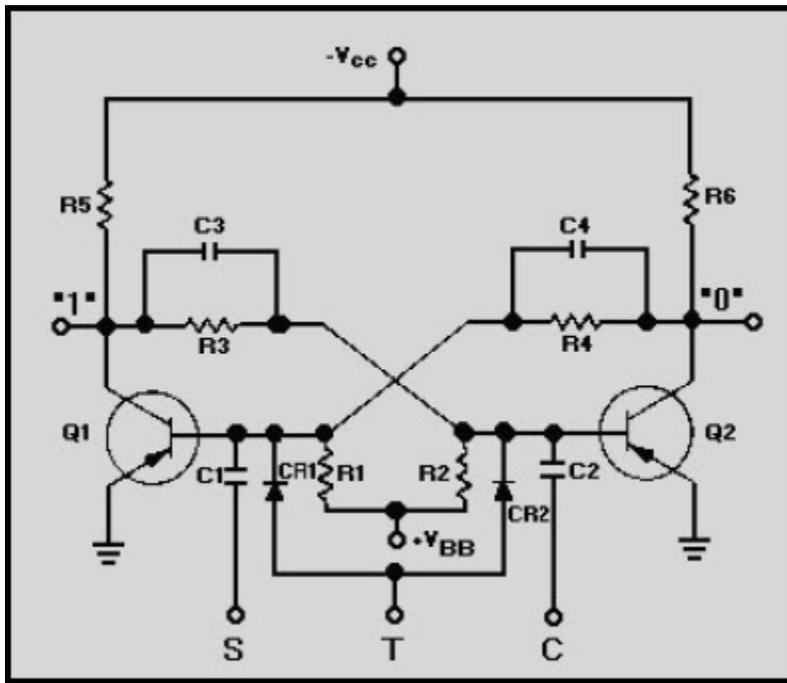
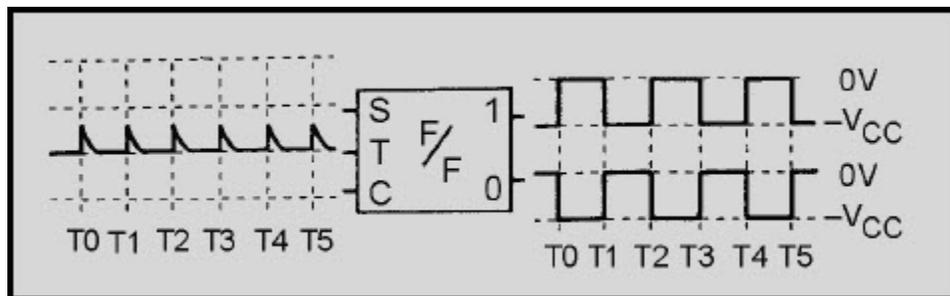
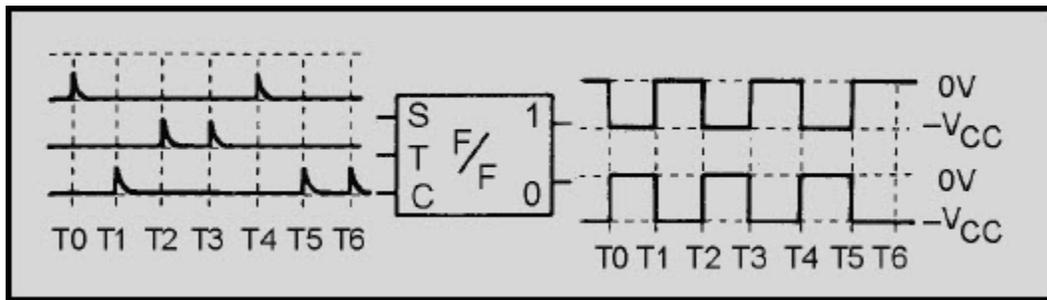

Figure 3-28 Flip-flop with three inputs
Figure 3-29 Block diagram of a flip-flop with a toggle input
Figure 3-30 Flip-flop with three inputs (block diagram)
Some flip-flops use a third input lead, as shown in figure 3-28. This third input lead is called a TOGGLE (T) input. Every time a pulse is applied to the T input, the flip-flop will change states from whatever its state was previously. The two diodes (CR1, CR2) form a STEERING NETWORK. This steering network directs a positive input pulse to the saturated transistor, causing it to cut off. Negative pulses are blocked by the diodes. Note that if npn transistors were used, the diodes would have to be reversed and the TOGGLE signal would have to be negative. For example, assume that Q1 is saturated, Q2 is cut off, and a positive pulse is applied the at T input. The input pulse will be directed to both transistors. The positive pulse will not affect Q2 since it is already in cutoff. Q1 however, which is conducting, will cut off and will cause Q2 to become saturated. The transistors have reversed states. A block diagram which represents a multivibrator and its outputs with only a TOGGLE input signal is shown in figure 3-29. Studying this figure should help you understand how this flip-flop works. Each TOGGLE input causes the output to change states. Figure 3-30 shows what happens when triggers are applied to all three inputs of the flip-flop shown in figure 3-28. Assume that the flip-flop in figure 3-30 is in the CLEAR state ("1" output is 0 volts, "0" output is high) prior to T0. At T0 a trigger is applied to the set input and the flip-flop changes states.